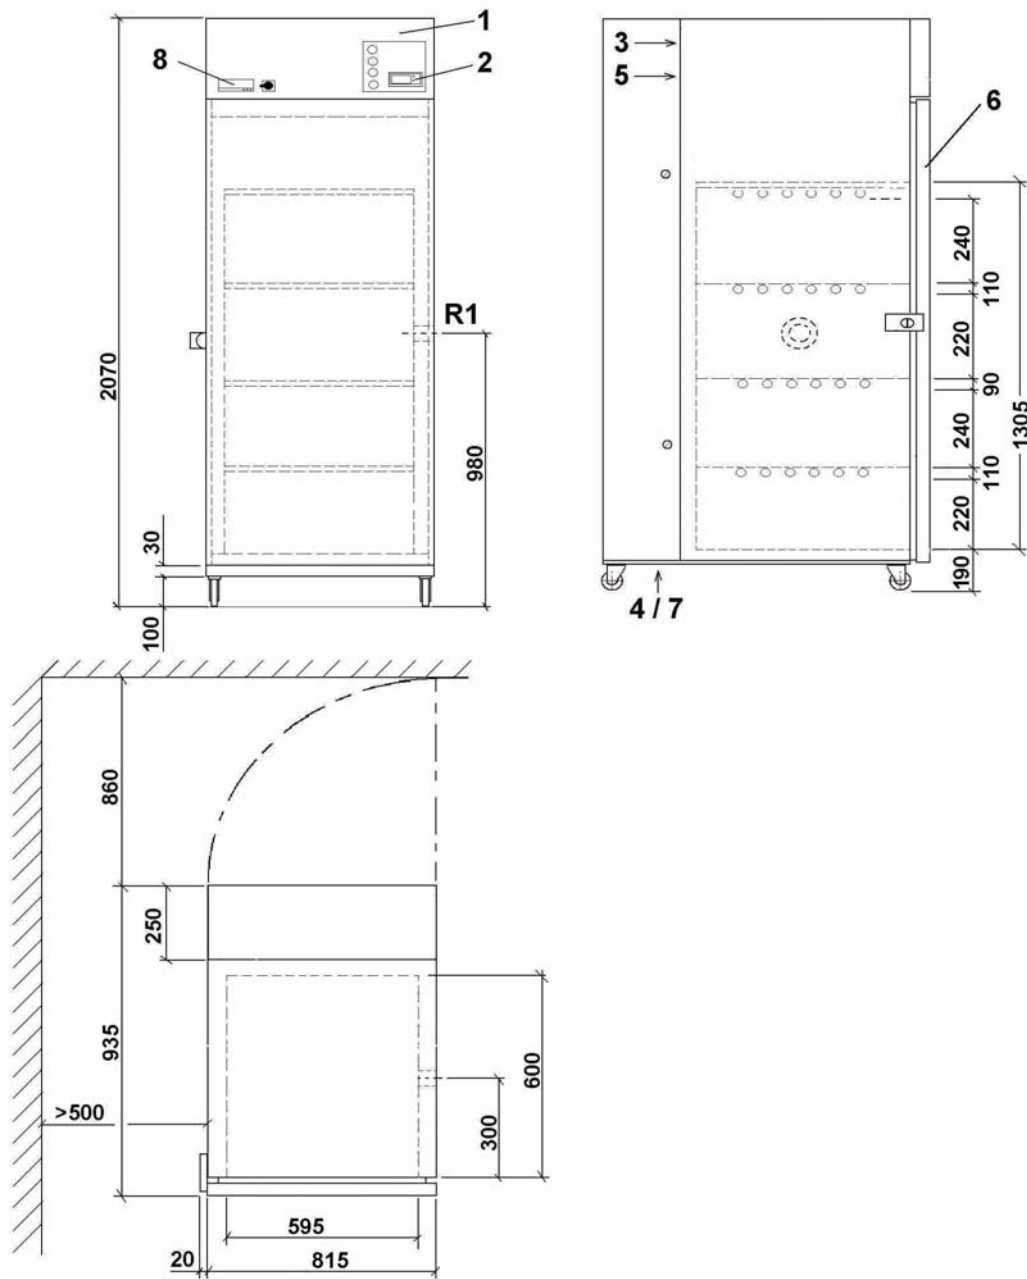

Fig. 4-1 Layout
*The dimensions are specified in the layout → Fig. 4-1 (page 18)*
→ *Fig. 4-1 Layout (page 18)*
You can lift the test system from the front or from behind if the fork is long enough to support the entire depth of the test system → *Fig. 4-1 Layout (page 18)*
- Does the wall distance comply with the specifications? → Fig. 4-1 Layout (page 18)